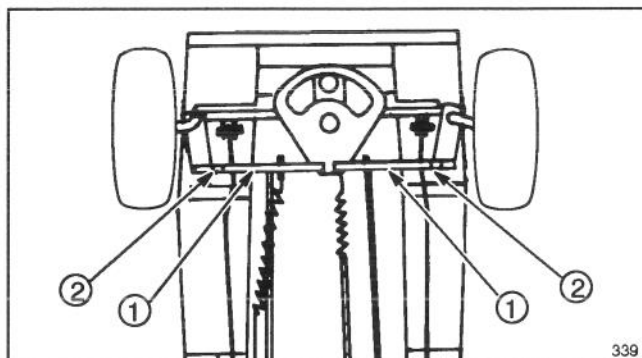

Figure 27
1. To align the front wheels, loosen the jam nut and turn the tie rod until the centerline distance across the front of the wheels (d') is .06 inch (1.5 mm) to 0.25 inch (6.3 mm) less than the centerline distance across the rear of the front wheels (d'') (Figs. 27 and 28).